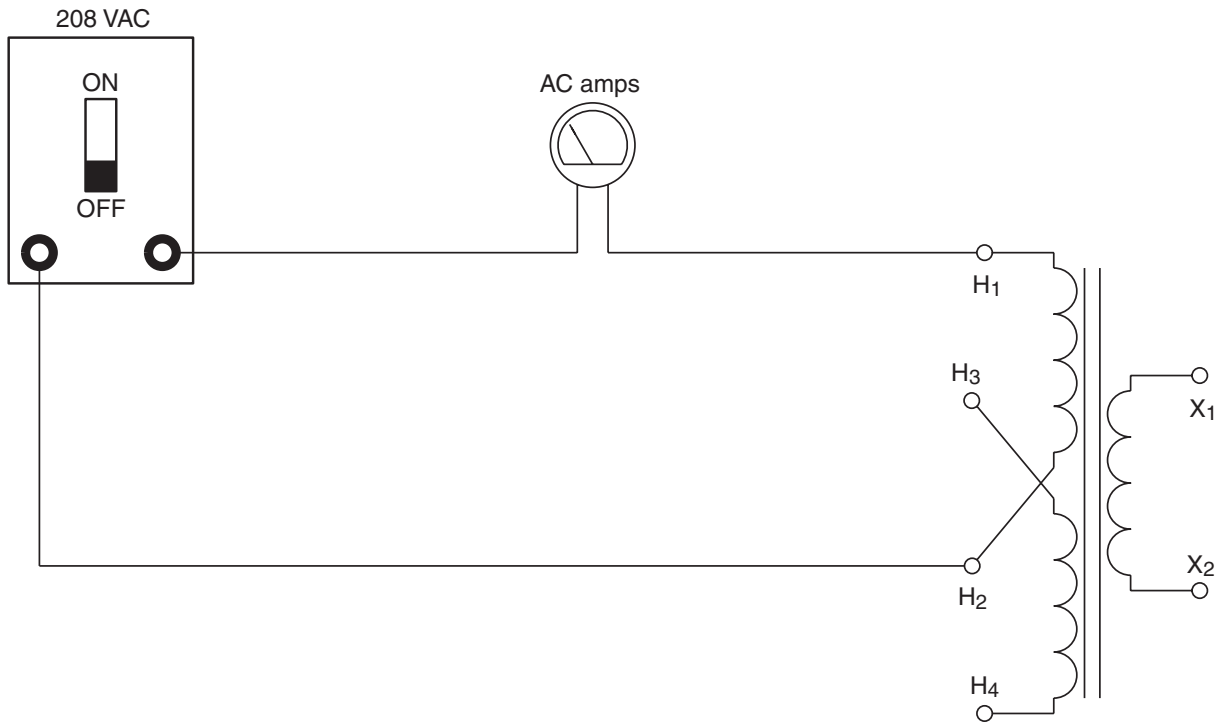

Figure 10-2 The high voltage-winding is connected to 208 volts.
11. Connect the circuit shown in Figure 10-2. Note that H₁ and H₂ are connected to a voltage of 208 VAC.